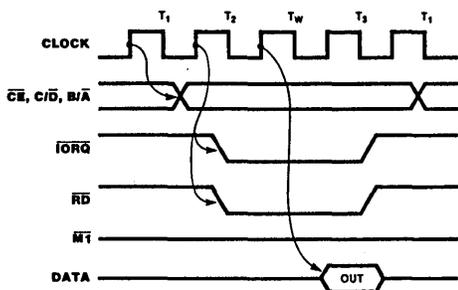

Figure 15. Read Cycle
Both channels contain registers that must be programmed via the system program prior to operation. The channel-select input (B/ $\bar{A}$ ) and the control/data input (C/ $\bar{D}$ ) are the command-structure addressing controls, and are normally controlled by the CPU address bus. Figures 15 and 16 illustrate the timing relationships for programming the write registers and transferring data and status.
**Read Cycle.** The timing signals generated by a Z-80 CPU input instruction to read a data or status byte from the SIO are illustrated in Figure 15.